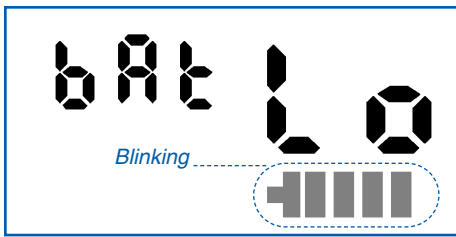

Fig. 9: Low Battery Error Display
The Battery Level is shown using the Battery Level indicator (1–5 bars). More bars mean more battery capacity is left. When the battery condition is very low, the entire battery indicator will blink. (Fig. 9)
- The **BAT LO** message will show when the battery condition is very low. (Fig 9.)